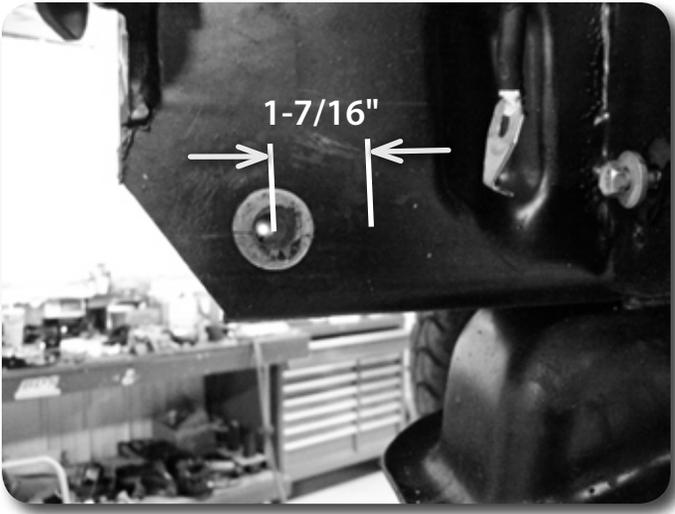

Figure 12
22. Locate the factory tow hook mount holes in the front of the frame rails. The driver's side of each frame rail will only have one tow hook hole. Measure straight back from the center of the existing hole $1\text{-}\frac{7}{16}$ " and mark. **Figure 12** Drill a $\frac{1}{2}$ " hole at the mark (one hole per frame rail).